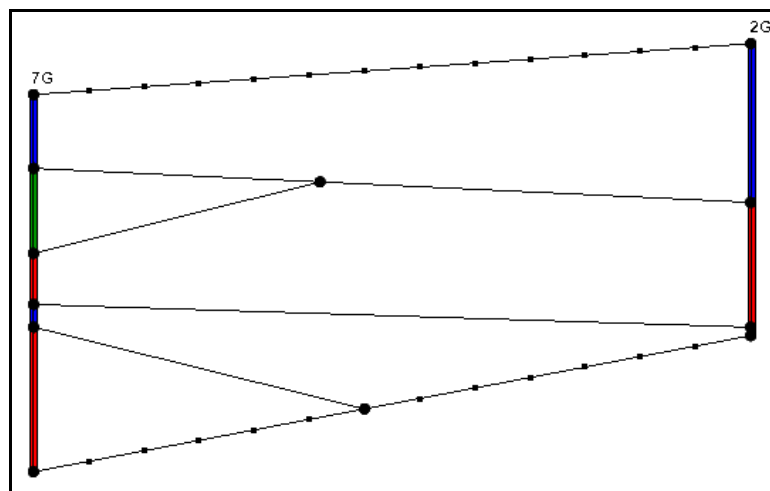

Figure 4 Interior arcs created
4. Create all the interior arcs shown in Figure 4.